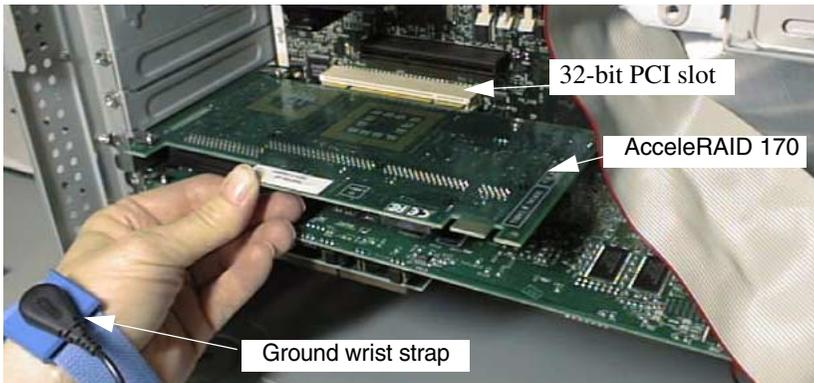

Figure 2-7. Plug the Controller into any 32-bit or 64-bit PCI Slot
4. Plug (install) the controller firmly into any 32-bit or 64-bit PCI slot as shown in Figure 2-7.